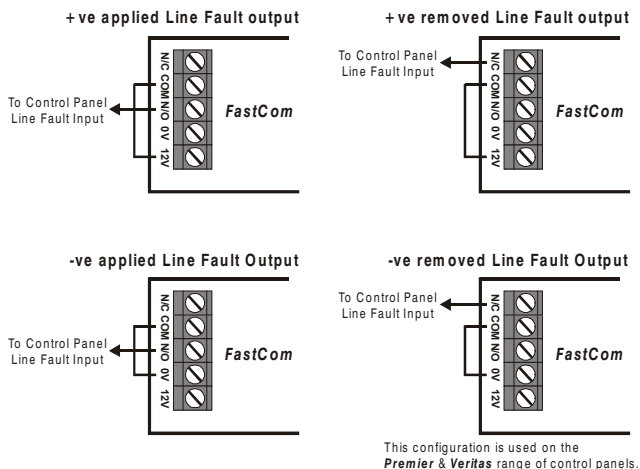

Figure 6. Line Fault Wiring Options
- 5) Connect AUX + and AUX – from the control panel to the 12V and 0V connections on the *FastCom*, if a line fault output is required use N/O and COM (see Figure 6).
- 1) Wire the output to the control panel line fault input as shown in Figure 6.